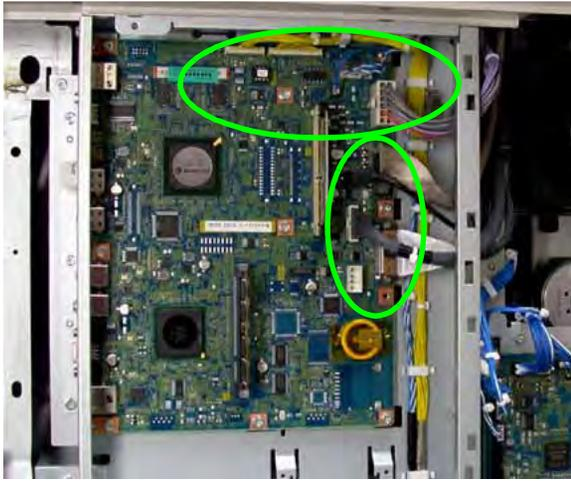

Figure 4 ESS PWB PJ's
5. Disconnect the ESS PWB connectors (9) (Figure 4).